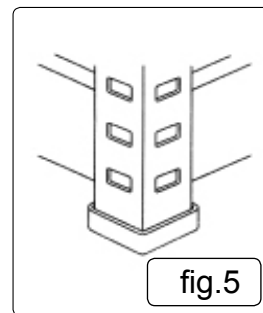

fig.5
5.6. See fig.5. When the frame is complete attach the plastic floor protectors to the bottoms of the angle sections. Get a second person to steady the frame while this is done.